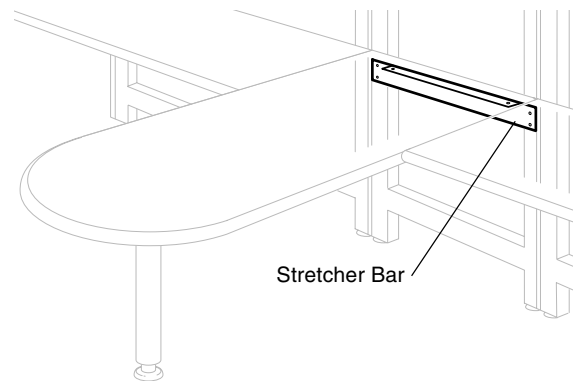

Figure 2
3. Along depth side of surface, install the button and pin into predrilled holes on surface bottom with the #10-12 x 1" screw provided matching the hole pattern in the stretcher bar. (Figure 2)